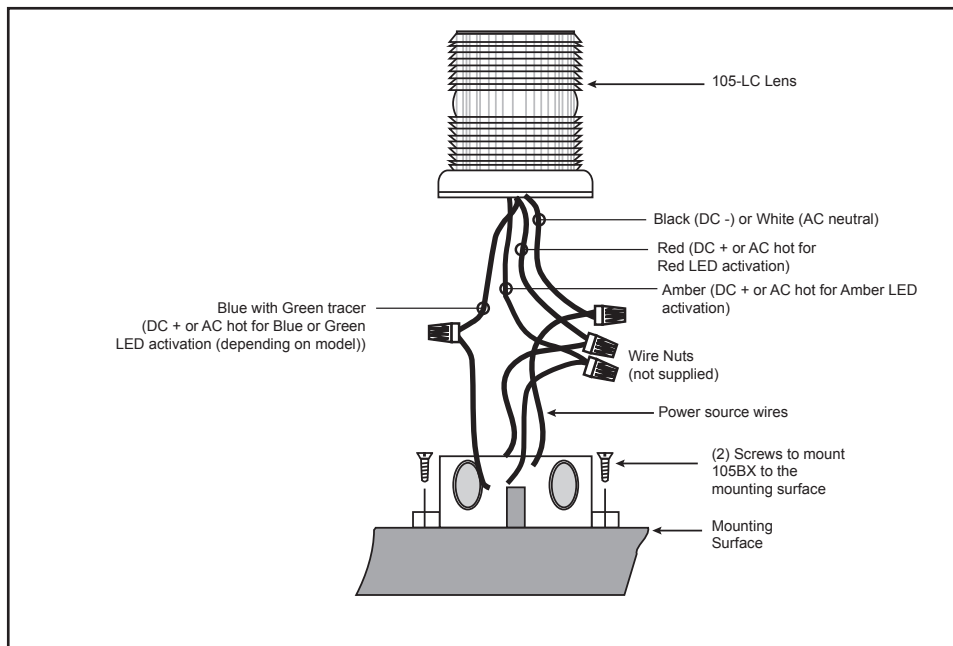

Figure 5. Wiring the 105XBRI Chameleon Series
6. Wire the beacon as follows (Figure 5).